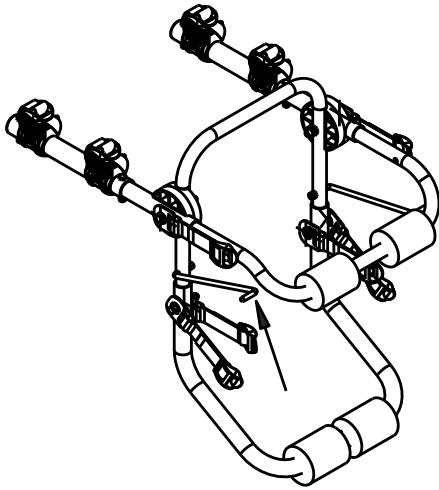
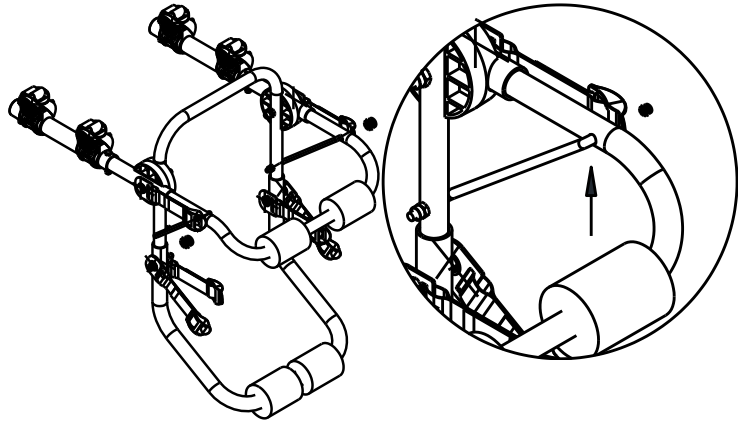

FIG. 5
FIG. 6
- Thread the M8 locknut onto the screw, but keep it loose. Repeat on other side. (Fig.5)
A. Carefully insert the support rod into support rod hole by pulling the rod toward center of carrier and rotating to hole (Fig. 5 and Fig. 6). Repeat on other side.(Add and tighten with M6 nuts)